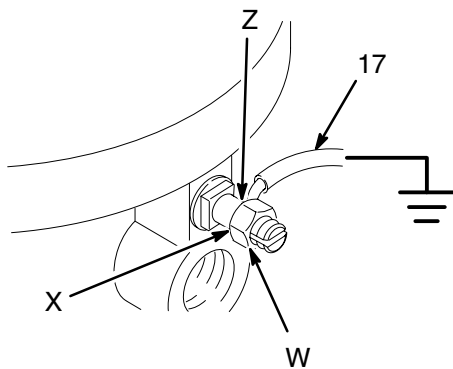

Fig. 2
1. *Pump*: use the ground wire and clamp (supplied). See Fig. 2. Loosen the grounding lug locknut (W) and washer (X). Insert one end of the ground wire (17) into the slot in lug (Z) and tighten the locknut securely. Connect the other end of the wire to a true earth ground.